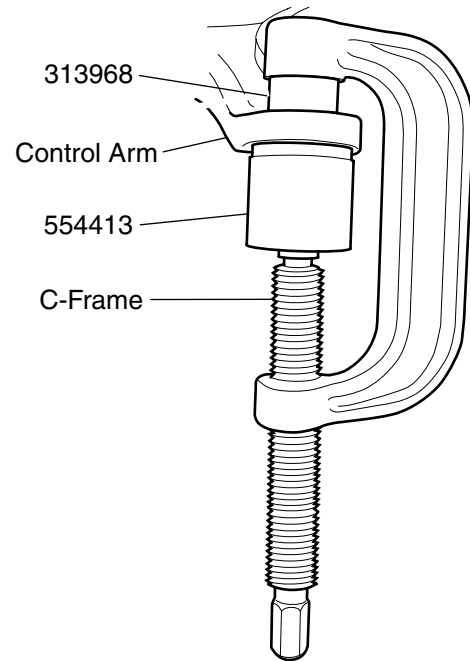

Figure 1. Ball Joint Removal
3. Position 554413 and the C-Frame as shown in Figure 1.